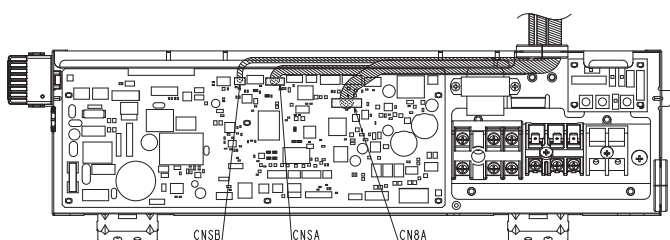

Fig. 6-3
2. Connect to the optional lead wire circuit board connector. (Fig. 6-3)